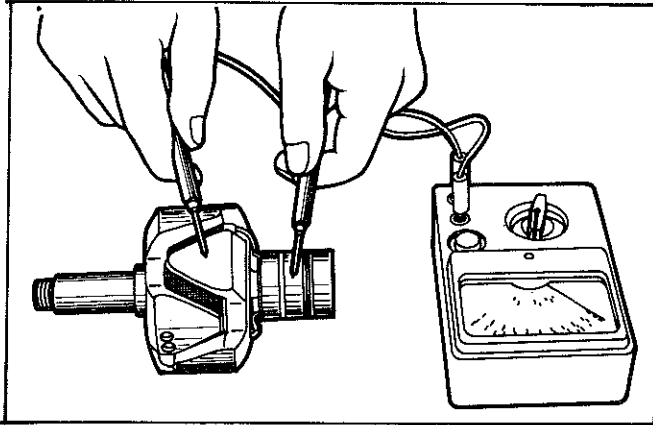

Fig. 10—Checking rotor for grounds
(3) Test the excitor windings of the rotor for a short circuit to ground using a low voltage test lamp or an ohmmeter as shown in Fig. 10. Connect one test lamp or ohmmeter lead to the slip ring and the other lead to a pole piece. If the lamp lights or the ohmmeter reading is low, the field windings are grounded.